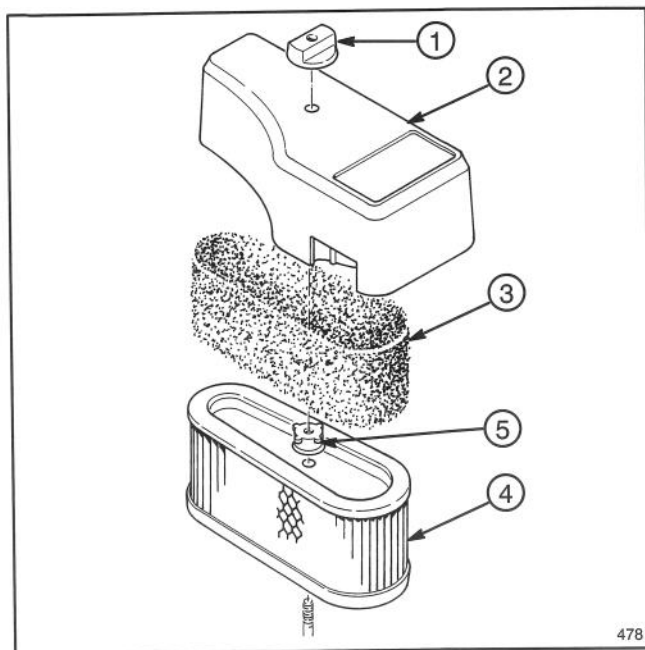

Figure 17
2. Remove knob and air cleaner cover (Fig. 17).
3. Every 25 hours the foam pre-cleaner should be cleaned (Fig. 17). Remove foam pre-cleaner by sliding it off the paper cartridge (Fig. 17).
4. The paper air cleaner cartridge should be replaced every 100 hours. Remove (1) one nut from top of paper cartridge (Fig. 17).